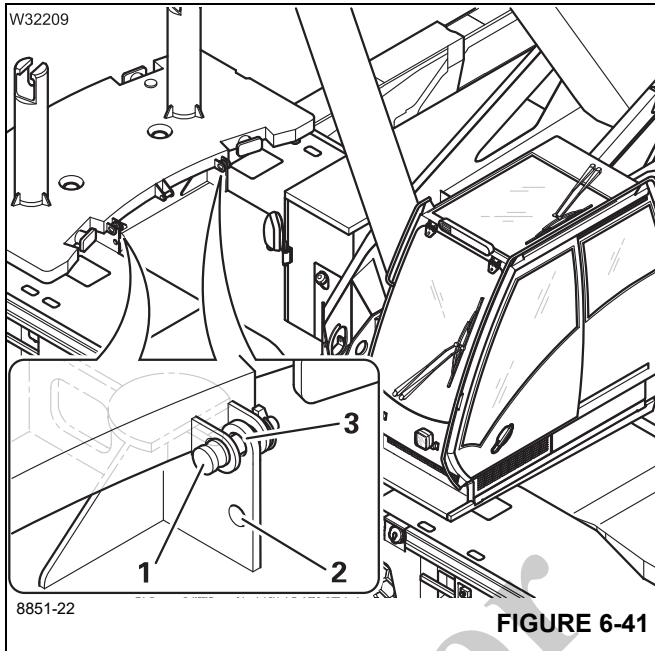

FIGURE 6-41
- Remove the pins (1), (Figure 6-41) from the clamps (2) and insert them into the connecting points (3).